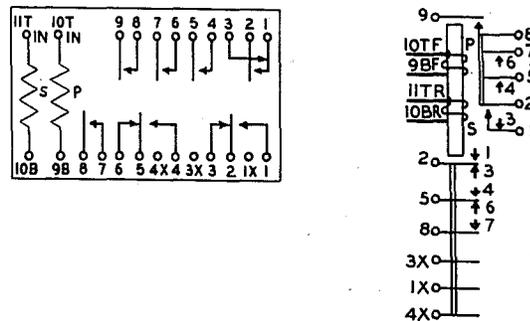

FIG. 7 - WINDING AND SPRING TERMINAL ARRANGEMENT AS VIEWED FROM THE REAR (TERMINAL SIDE) - U, Y, UA AND UB TYPE RELAYS HAVING SHIELDING SPRINGS
**2.26 Shielding Springs:** Where an electrostatic shielding spring is used, it does not in most cases extend beyond the mounting plate as viewed from the front of the relay. Only a wiring terminal appears from the terminal side. This wiring terminal is given the number of the wiring terminal immediately to its right as viewed from the rear followed by the letter X as shown in Fig. 7, except when the spring is the first spring in the pileup. In this case, the spring is numbered X1.